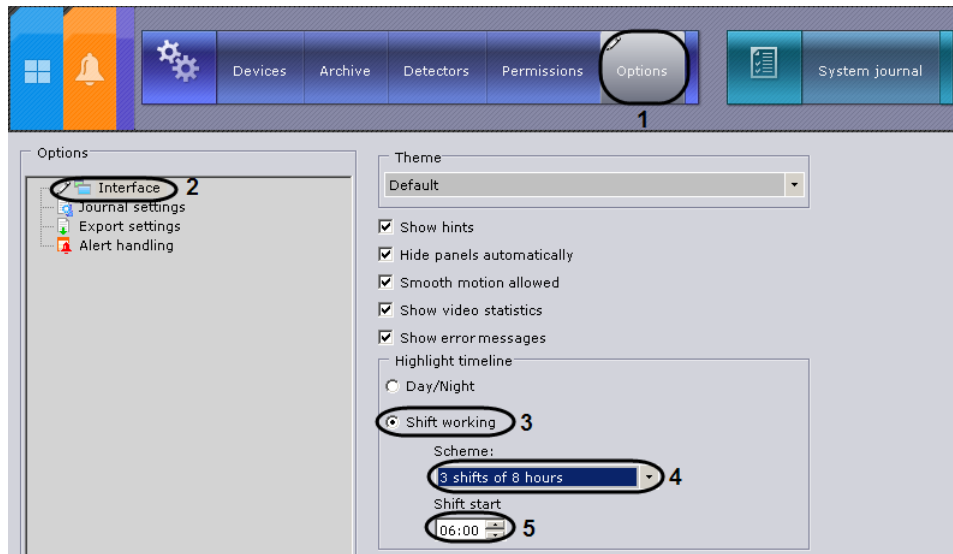

Fig. 6.6—12 Configuring the timeline style. The Shift working style
2. Select the **Shift working** option button in the **Highlight timeline** configuration group (see Fig. 6.6—12, 3).